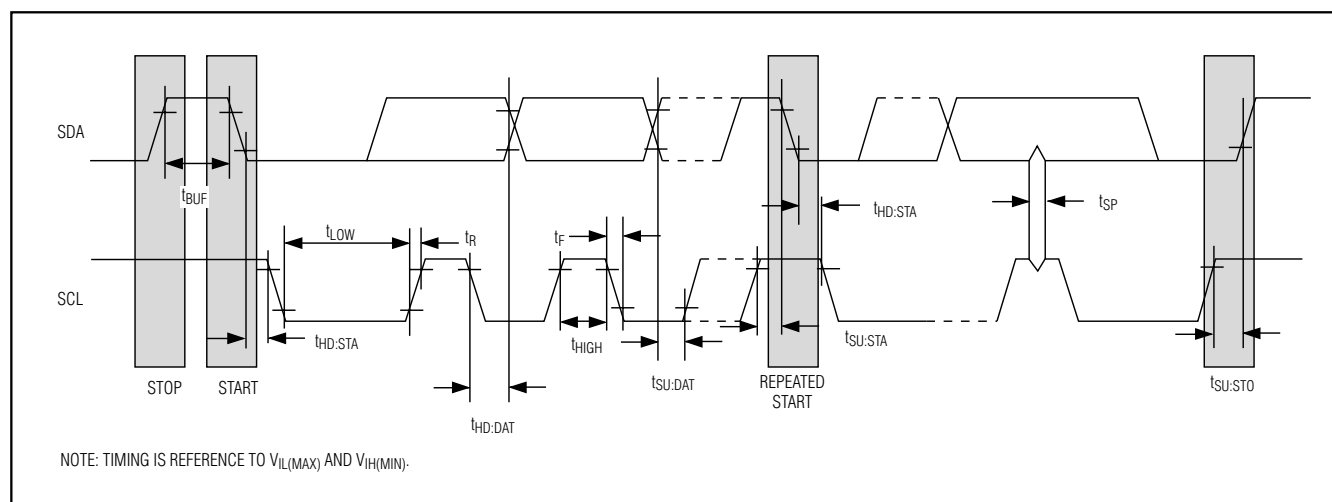

Figure 2. I2C Timing Diagram
**Bit Write:** Transitions of SDA must occur during the low state of SCL. The data on SDA must remain valid and unchanged during the entire high pulse of SCL plus the setup and hold-time requirements (see Figure 2). Data is shifted into the device during the rising edge of the SCL.
**Bit Read:** At the end of a write operation, the master must release the SDA bus line for the proper amount of setup time (see Figure 2) before the next rising edge of SCL during a bit read. The device shifts out each bit of data on SDA at the falling edge of the previous SCL pulse and the data bit is valid at the rising edge of the current SCL pulse. Remember that the master generates all SCL clock pulses including when it is reading bits from the slave.
**Acknowledgement (ACK and NACK):** An Acknowledgement (ACK) or Not Acknowledge (NACK) is always the 9th bit transmitted during a byte transfer. The device receiving data (the master during a read or the slave during a write operation) performs an ACK by transmitting a zero during the 9th bit. A device performs a NACK by transmitting a one during the 9th bit. Timing (Figure 2) for the ACK and NACK is identical to all other bit writes. An ACK is the acknowledgment that the device is properly receiving data. A NACK is used to terminate a read sequence or as an indication that the device is not receiving data.